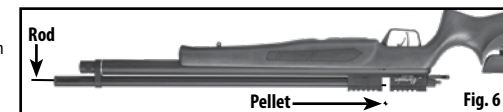

Fig. 6
2. Insert a clearing rod of the proper size into the barrel (start at the muzzle). (Fig. 6) The barrel could be damaged if the proper sized clearing rod is not used.